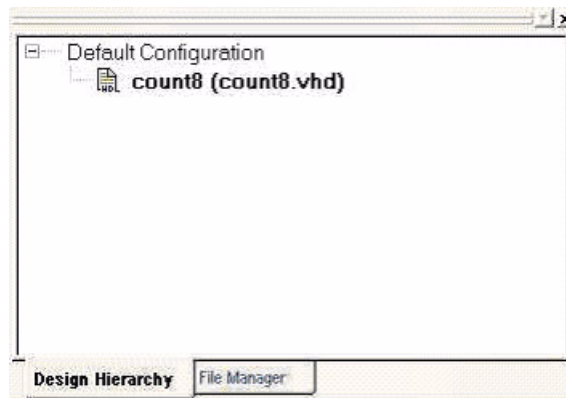

Figure 7-9. Design Hierarchy
3. From the **File** menu, click **Save**. The design file counter appears in the Design Hierarchy. Libero IDE lists **count8.vhd** under HDL files in the File Manager, as shown in Figure 7-9.